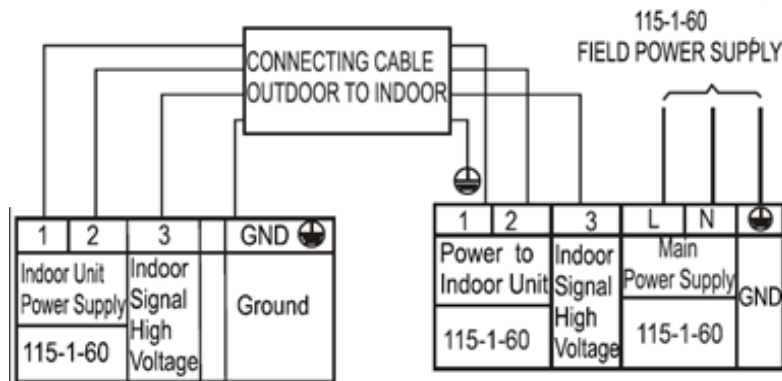

Fig. 3 — Connection Diagram - 12K (115V)
2. All connections between indoor and outdoor units must be as shown (see figures 3 - 5). The connections are sensitive to polarity and will result in a fault code.